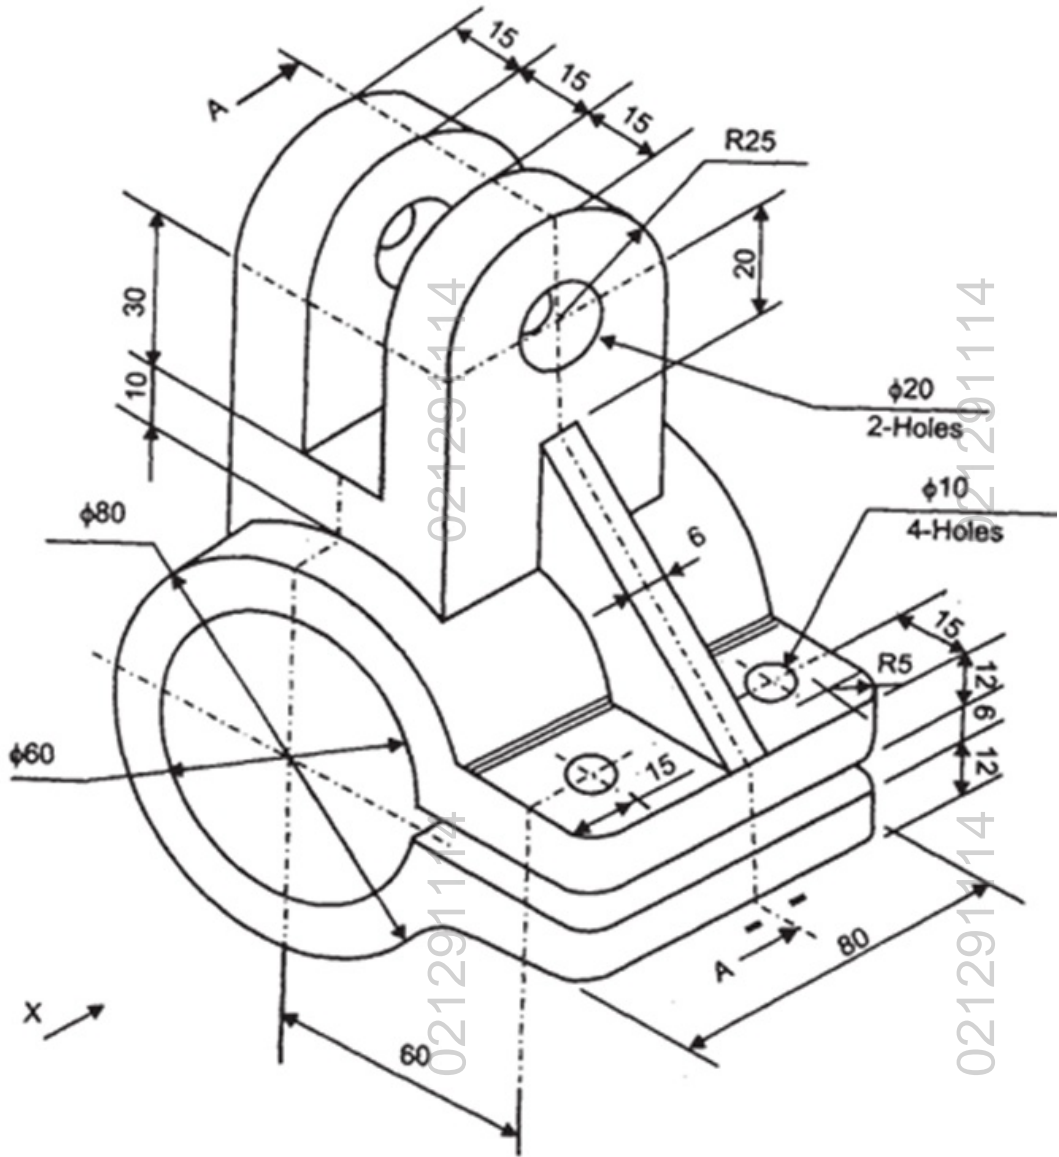

Fig. No 1
- A) A pictorial view of an object is shown in Figure No. 1. Draw the following view: